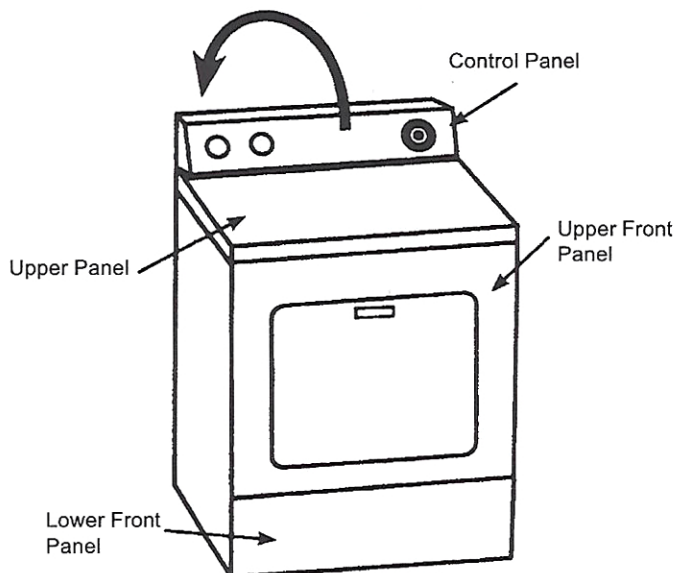

FIG. 1
2. Detach control panel, depending on your model, either use a putty knife under the panel to release the two clips or you will pull off both plastic endcaps and remove the screws found underneath See Figure 1